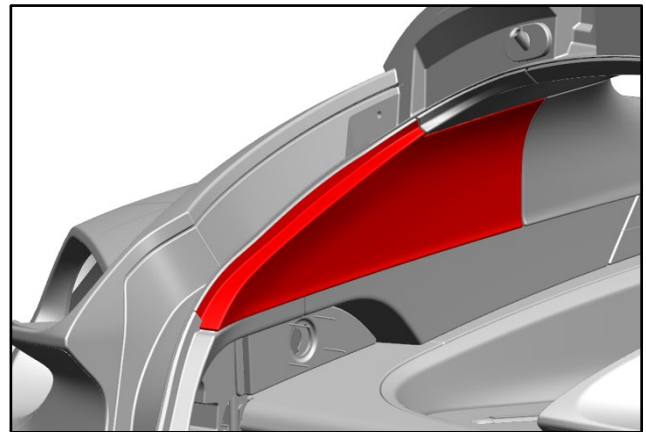
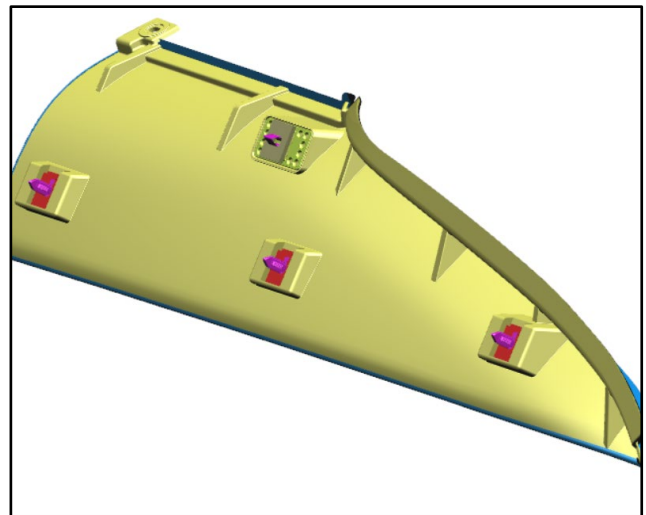

Figure 6
Figure 7
8. Remove the left-side upper trim panel for the luggage compartment (refer to Figure 6). The trim panel is attached by fir-tree and diamond clips on the rear side (refer to Figure 7).